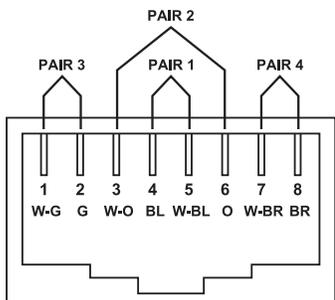
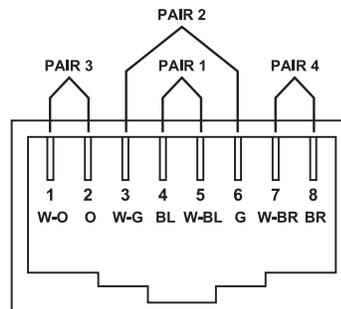

Figure 5-2. T568A wiring.
Figure 5-3. T568B wiring.
**RJ-45:** The Registered Jack (RJ) physical interface is what connects the network cabling (CAT5) to the local unit and the remote unit. You may use either the T568A scheme (see Table 5-1 and Figure 5-2) or the T568B scheme (see Table 5-2 and Figure 5-3) for cable termination. RJ-45 connectors are sometimes also referred to as 8P8C connectors.